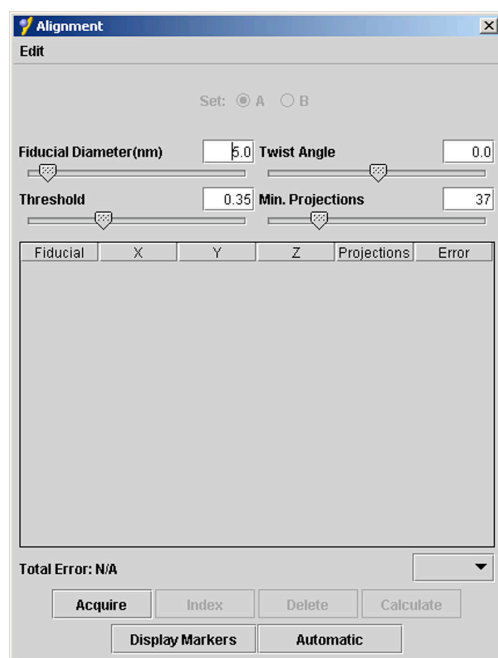

Figure 13: Projection Alignment window
- From the **EM3D** visualization window, select **Process > Align...** to open the Projection **Alignment** window (Figure 13).